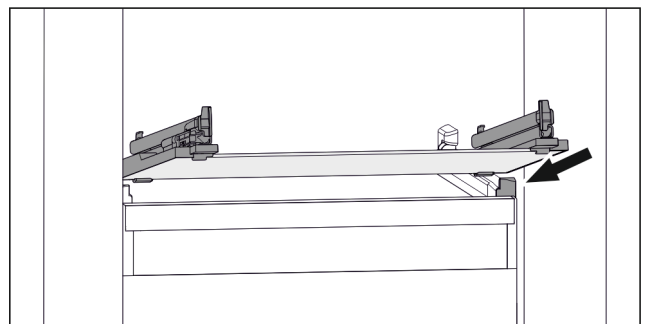

Fig. 101 Example illustration of glass shelf
- Position glass shelf at an angle behind the stoppers. (see Fig. 101)